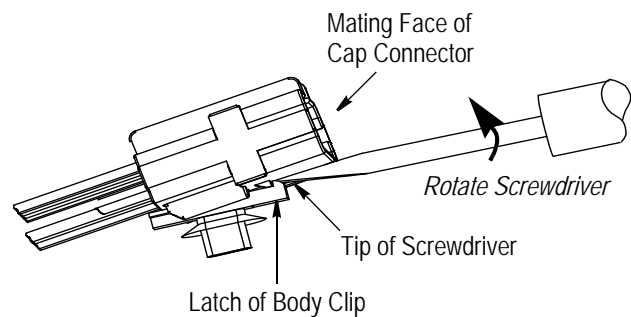

Figure 7
1. From the mating face of the cap connector, slide the tip of a flat blade screwdriver into the hold-down retainer so that it is under the latch of the body clip. See Figure 7.